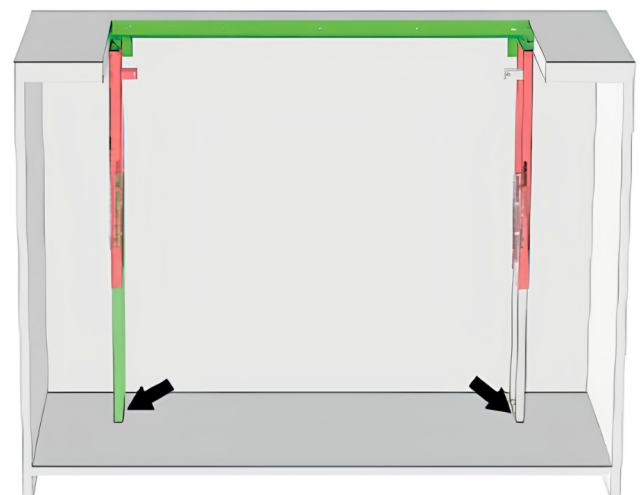

Fig.5
7. After fixing the reinforcement structures, adjust their telescopic travel so as to reach the base underneath (Fig. 5). Fix the structure to the base underneath utilising the screws supplied.